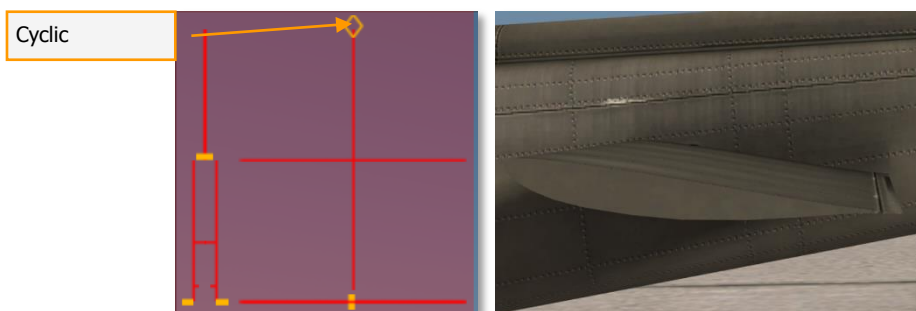

Figure 4.2. Position of the synchronized elevator when cyclic is fully forward (angle +5.40 degrees regarding the construction line of helicopter).
A. SYNCHRONIZED ELEVATOR. The synchronized elevator is located on the tail boom. It is connected by control tubes and mechanical linkage to the fore-and-aft cyclic system. Fore-and-aft movement of the cyclic control stick will produce a change in the synchronized elevator attitude. This improves controllability within the center of gravity (cg) range (Figure 4.2..Figure 4.4).